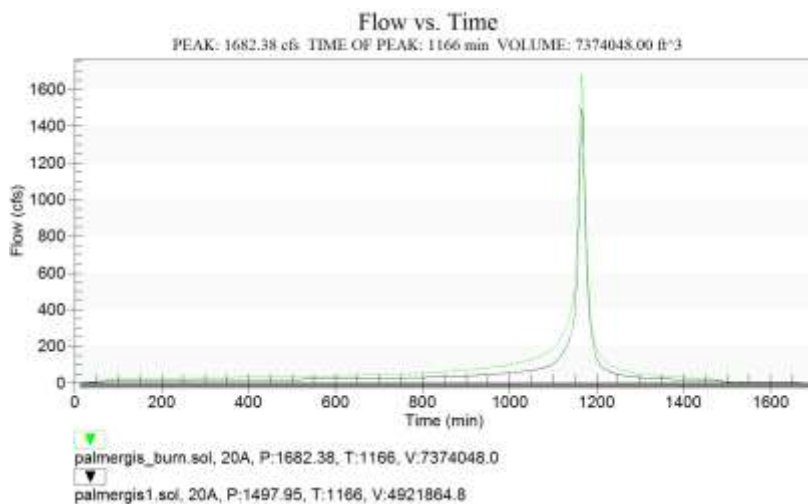

Figure 7 Burned/original hydrographs for MODRAT simulation
19. The plot will contain the original hydrograph (from the previous run) and the new hydrograph from the burned simulation (read in from the new *.sol file). It should look similar Figure 7.